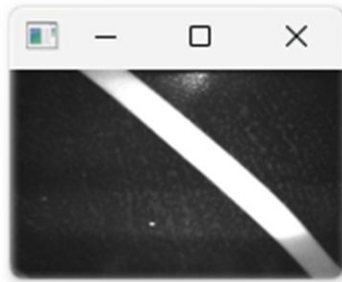

Figure. 3. Downward Facing Camera Feed
5. Using observer.py, open the downward facing camera feed, shown in Figure 3. Now, instead of walking behind the QBot, try making the robot follow the lines on the mat